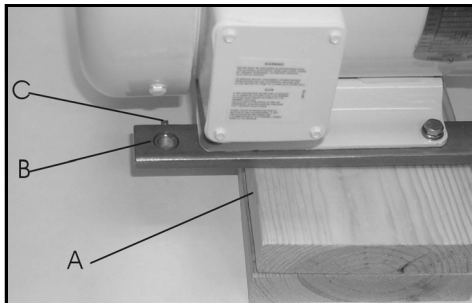

Figure 3 - Blocking and Sleeve
4. Place the pump on the blocking that is approximately 3 inches high. (Figure 3, item A).
5. Install the two sleeves (Figure 3, item B) in the leg brackets on the pump and lock in place using the set screw (Figure 3, item C).